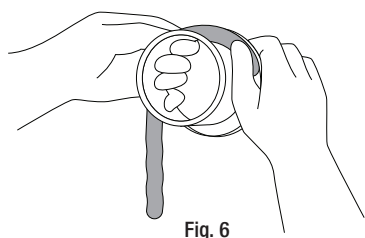

Fig. 6
- If you use putty, (see Fig. 7a) form a ring around the underside of the sink flange (see Fig. 6). Insert the flange into the sink opening, press down hard to squeeze out the excess putty. Trim off excess putty from the top and bottom of the sink opening (see Fig. 7b). Do not rotate the flange once it is seated.